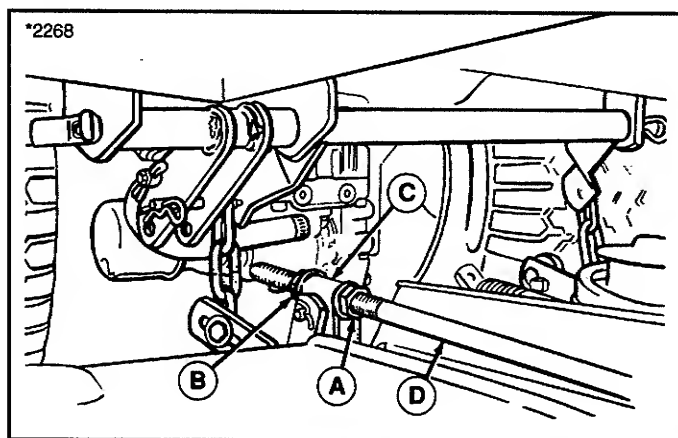

Figure 33. Leveling The Mower Front-To-Back
8. See figure 33. To raise front of mower deck, loosen front nut (A) and turn rear nut (B) against bracket (C).
9. To lower front of mower deck, loosen rear nut (B) and bracket (C) will move backwards to lengthen rod.
10. Re-check measurement before tightening front nut (A) against bracket.